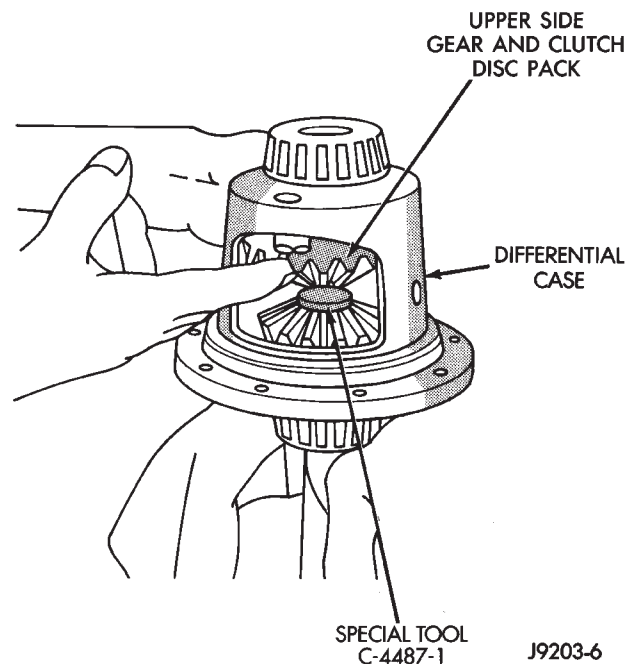

Fig. 16 Upper Side Gear & Clutch Disc Pack Installation
(6) Install lubricated Step Plate C-4487-1 on first clutch pack (Fig. 16).
(7) Install the upper side gear and clutch disc pack (Fig. 16).
(8) Hold assembly in position. Insert Threaded Adapter C-4487-3 into top side gear, insert forcing Screw C-4487-2.